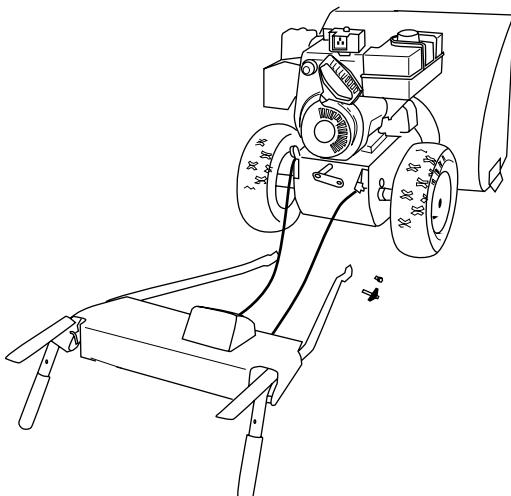

Figure 3
4. Lay handle panel assembly behind snow thrower. See Figure 3.